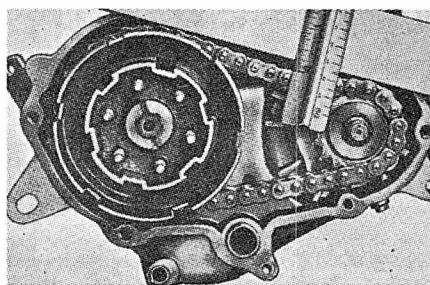
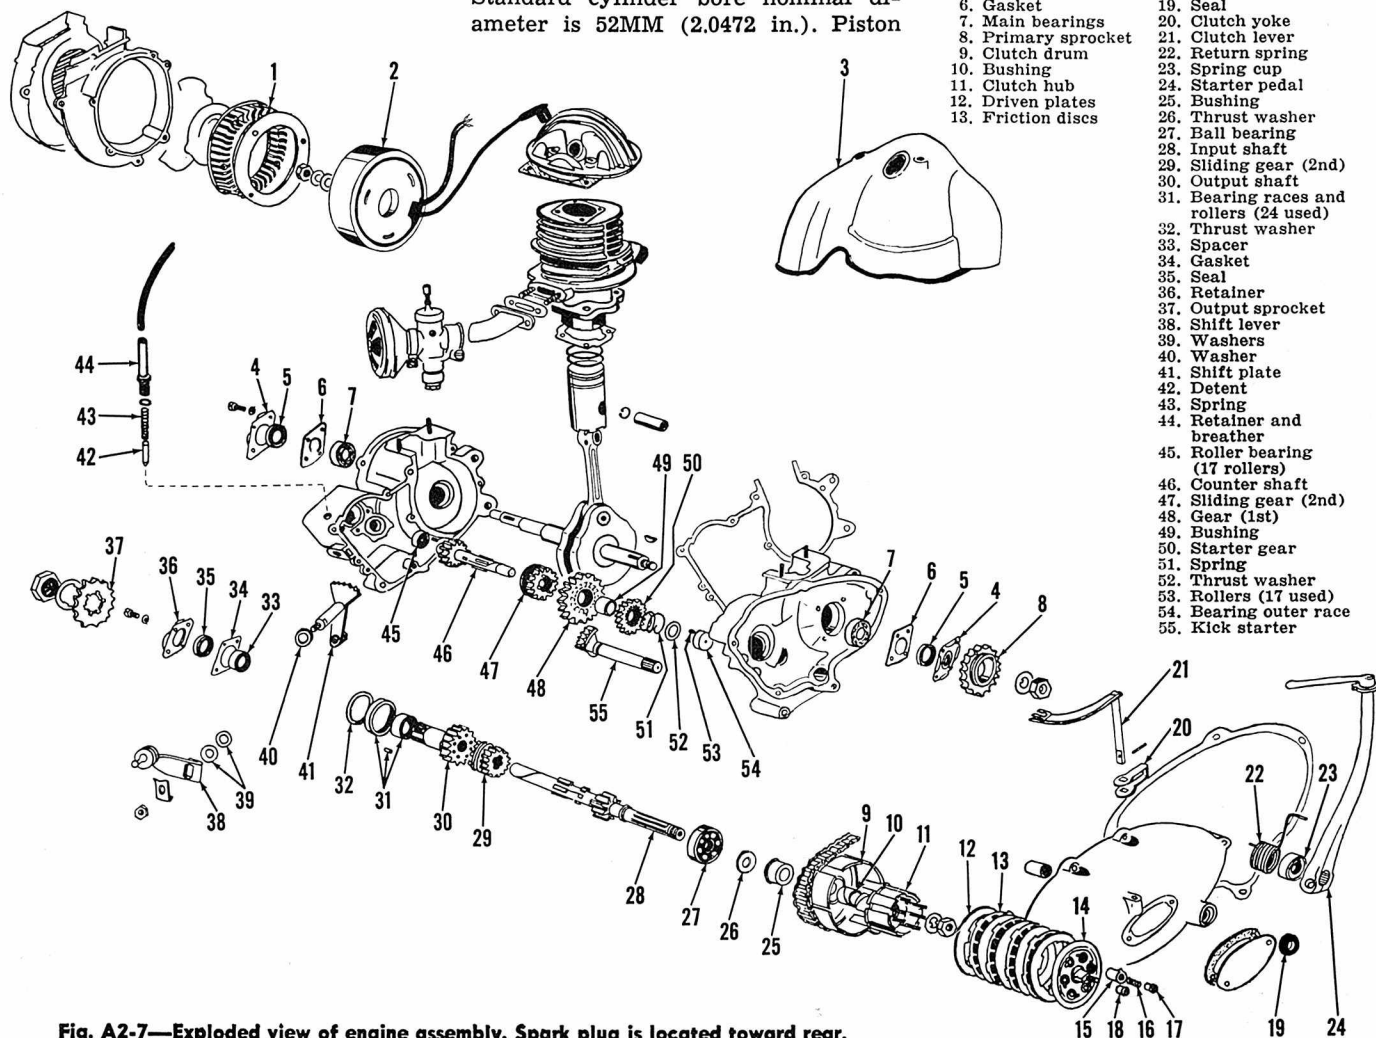

Fig. A2-5—Primary chain tension is not adjustable. Renew chain if slack exceeds 0.4 inch.
Fig. A2-7—Exploded view of engine assembly. Spark plug is located toward rear.
**CLUTCH.** Refer to Fig. A2-7 for exploded view of clutch assembly. Renew friction discs and/or steel plates (12 & 13) which show any evidence of wear, overheating or damage. Primary drive chain tension is not adjustable. Primary chain and (if necessary) sprockets should be renewed if chain slack is more than 0.4 inch (Fig. A2-5). When installing clutch plates, install thick (2MM) steel plate in clutch drum, then one friction disc (13—Fig. A2-7). Alternate regular steel plates and friction discs. The last
To disassemble the crankcase and gear box, the engine must first be removed. Remove the cowl, cylinder head, cylinder, piston, flywheel, clutch and crankshaft gear. Remove screws that attach crankcase halves together and carefully separate the halves. Dowel pins are installed between halves. Be careful not to damage sealing surfaces of crankcase. The transmission is shown in Fig. A2-7.